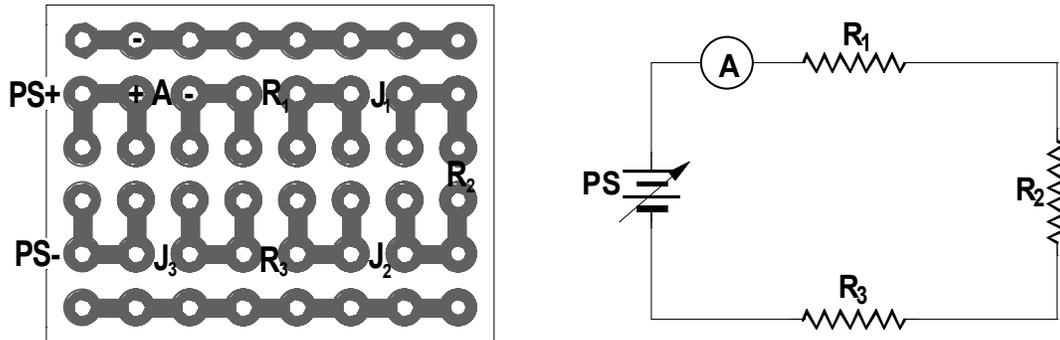

Figure 10. Wiring aid and schematic diagrams for measuring the current versus voltage of 3 resistors in series.
4. Use your 3 resistor values from your ohmmeter measurements and Equation (11) to calculate the total resistance of your 3 resistors connected in series. Enter your result in your spreadsheet and compare it with the measured value. Compute the percent difference between the measured and calculated values.
5. Connect the power supply, ammeter, and voltmeter to the 3 resistors in series as shown in the schematic and wiring diagrams of Figure 10. Notice the position of the ammeter and the positions of the jumpers.